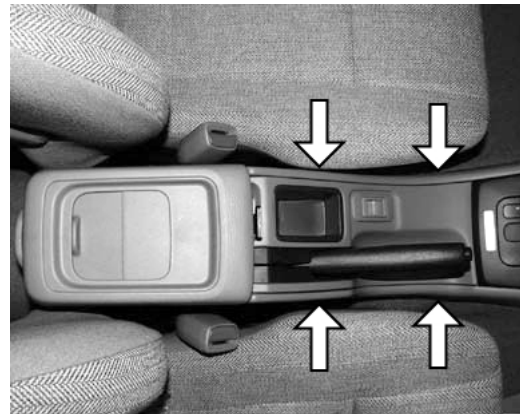
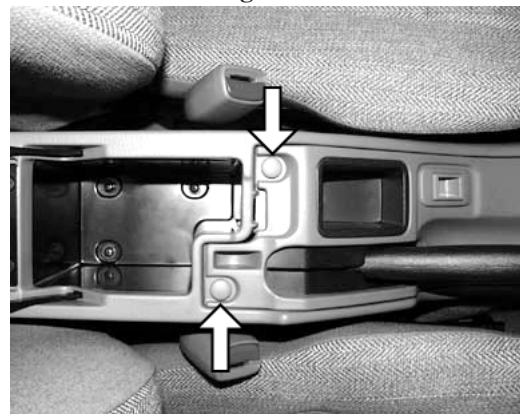

Figure 1
Figure 2
1. Open the parking brake/tray cover which is shown in Figure 1.
2. Remove the two screw caps and two screws indicated by the arrows in Figure 2 and disengage the four hooks indicated by the arrows in Figure 1.